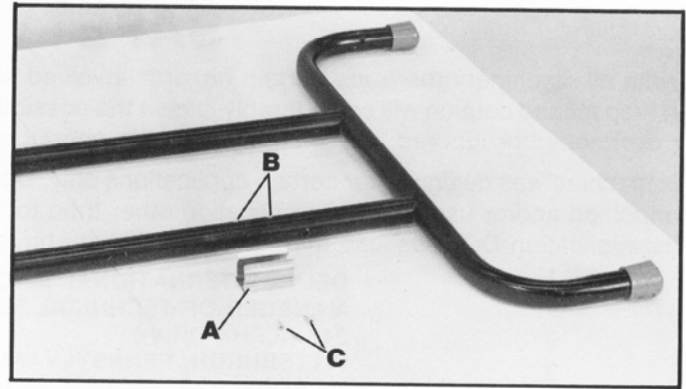

Fig. 2
1. Assemble leg clamp (A) Fig. 2, to the two holes (B) located in one of the legs using the two 5/16" long self tapping screws (C). NOTE: The two holes (B) are located on all four legs and it does not matter which leg is used to assemble the clamp (A).